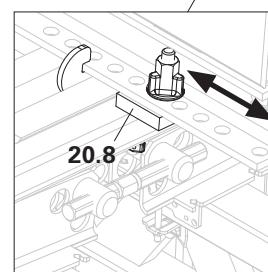

Fig. B2.02b
- The steel waler/Distribution Waler lies against the formwork support (20.8). (Fig. B2.02b)